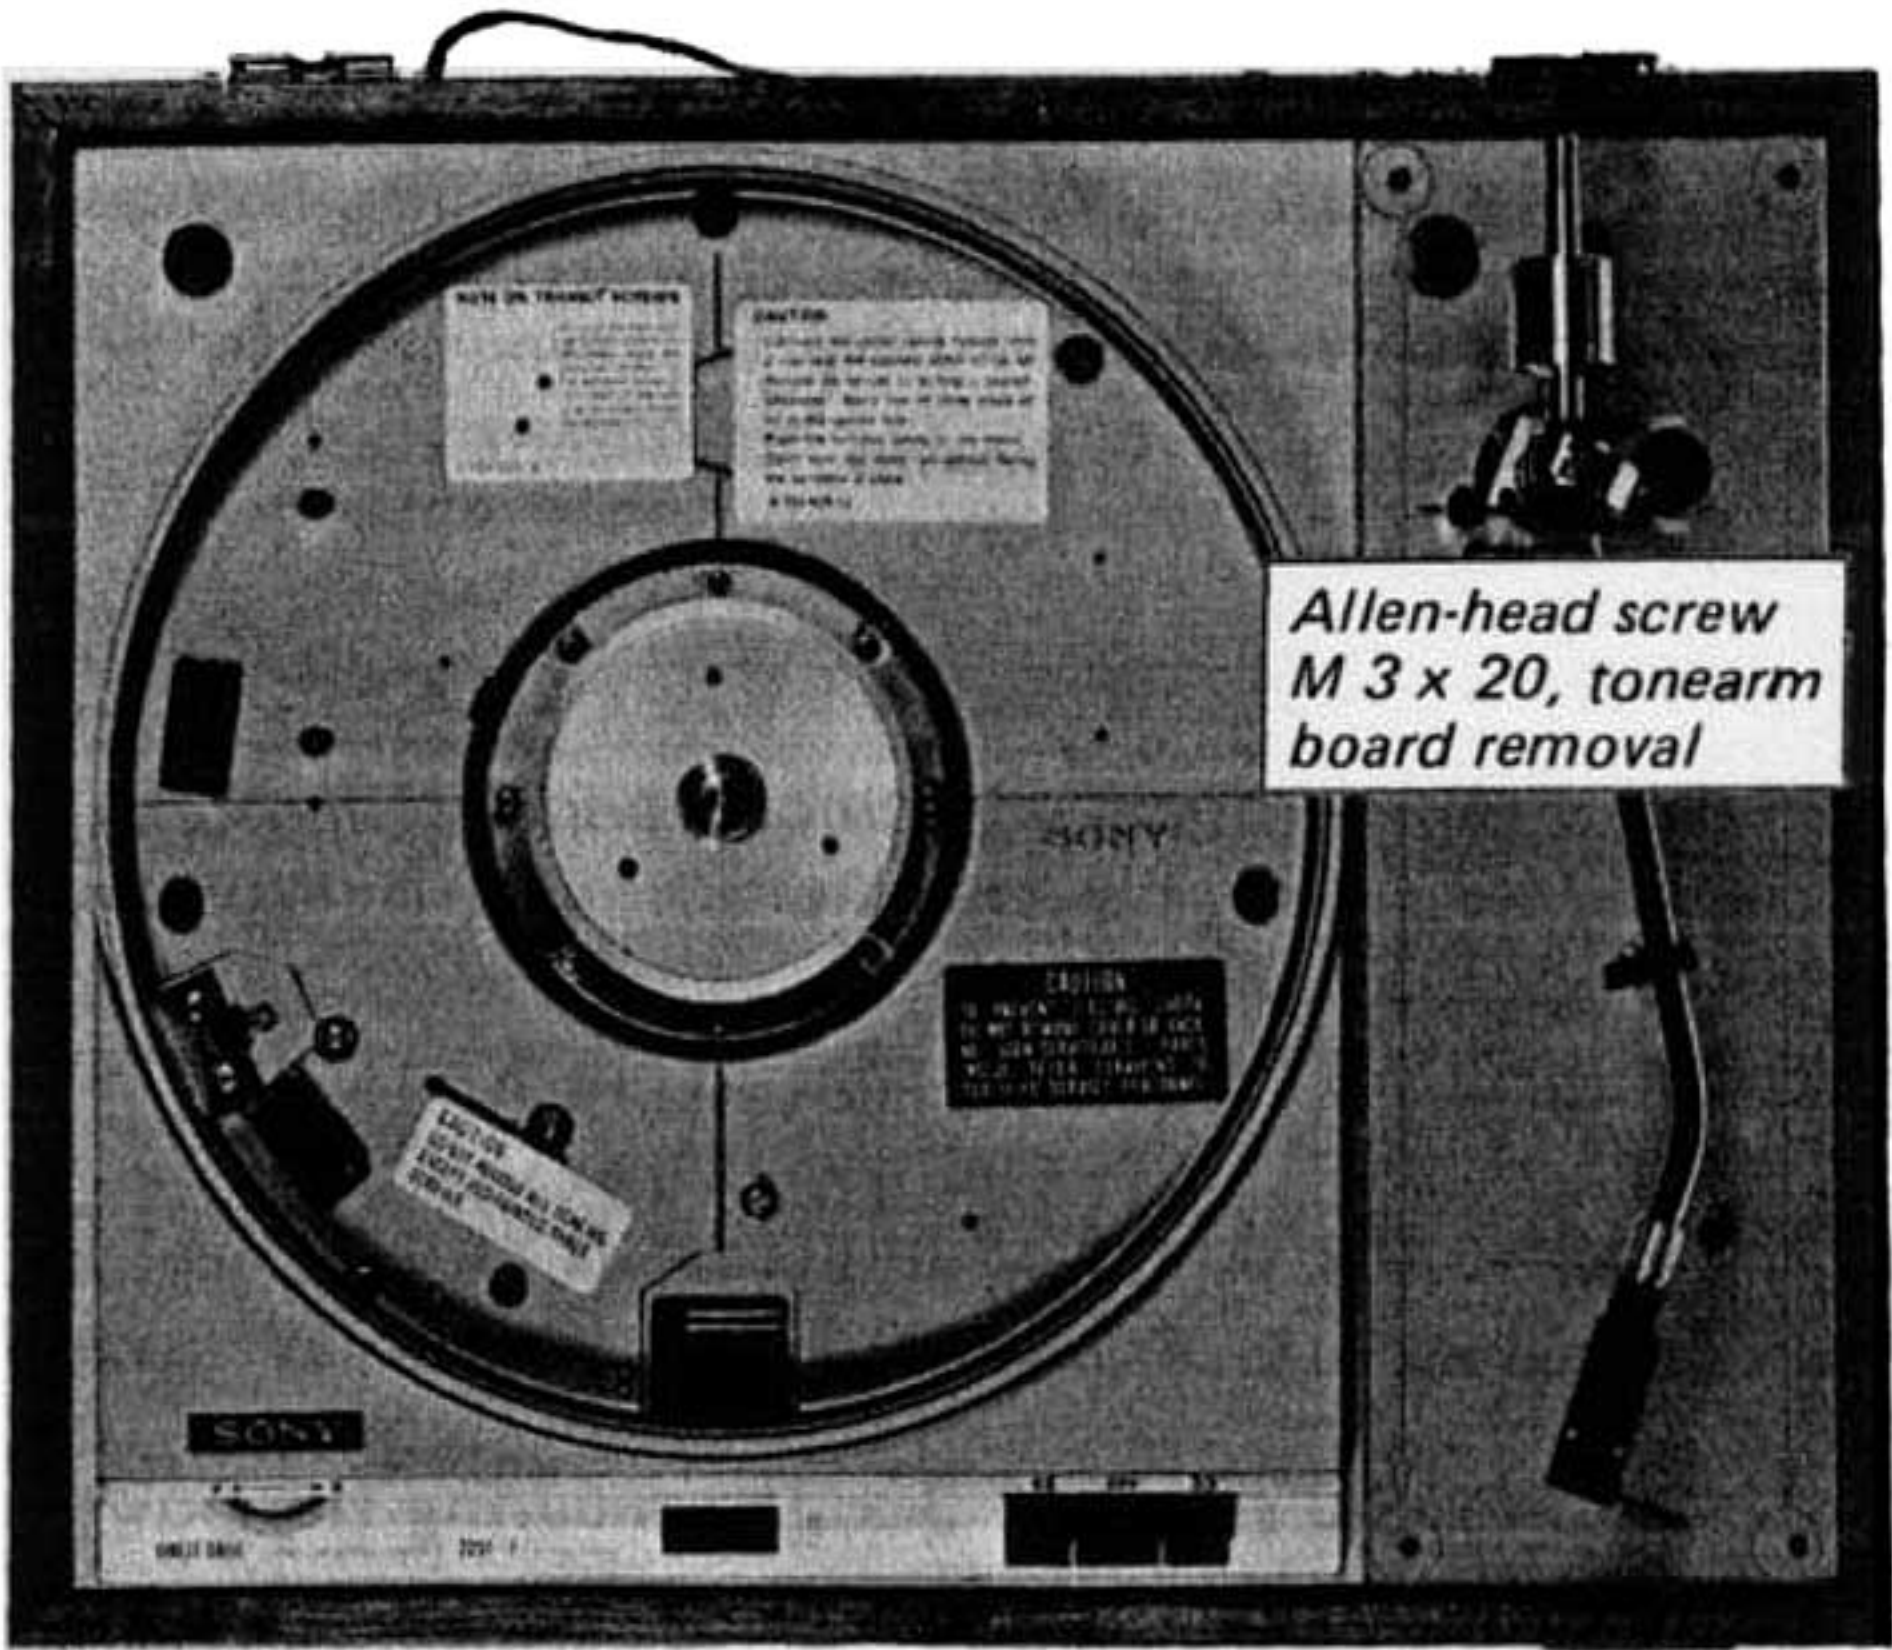

Fig. 2-11. Tonearm board removal
- 2. Remove the four allen head screws (M 3 x 20). See Fig. 2-11. This frees the tonearm board.